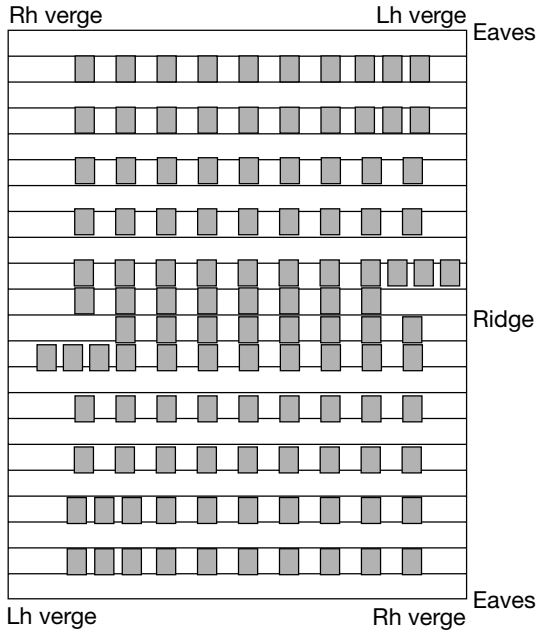

Fig. 1 - Loading roof evenly with slate stacks
- Load slates and fittings out on roof safely, support by battens to avoid slippage and distribute evenly to prevent overloading of roof structure [Fig. 1, page 8].